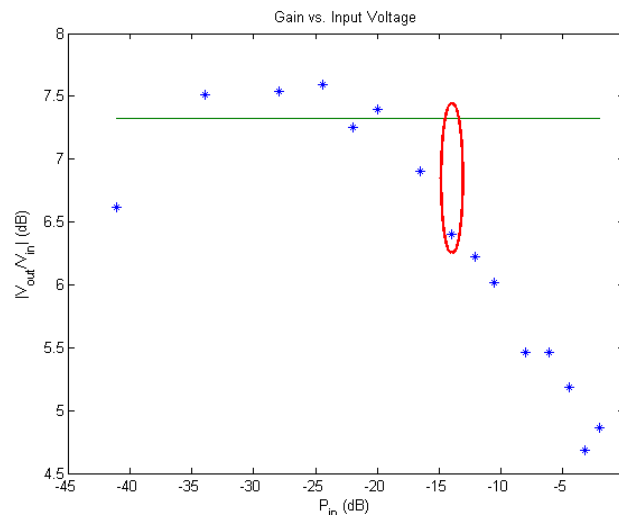

Figure 1: Plot of Voltage Gain (dB) vs. Input Signal Power (dB)
c) In the same m-file, plot the gain of the amplifier ($|v_{out}|^2/|v_{in}|^2$) in dB vs. the Power of the input signal into a 1 Ohm resistor in dB for each input voltage amplitude. Your plot should look like the Figure 1 below. Include in your plot a line that indicates the ideal gain of your amplifier. The ideal gain can be found by averaging the measured gain for the first few "small-signal" data points (i.e. those data that lie to the left of the 1-dB compression point).